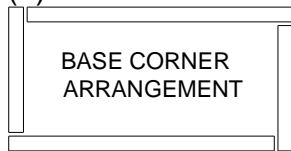

Figure 3.1
- A. Remove from the shipping carton four (4) bottom corner brackets. Refer to figure 3.1 and note the orientation of the curb sides at the corners. With the corners oriented in this way, stand two adjacent sides up at a time and slide a corner bracket onto the two curb sections as shown in figure 3.2. Do this at all four corners. Once the corner brackets are fully seated, secure side panels using six (6) 1/4" x 1" TEK screws at each corner.